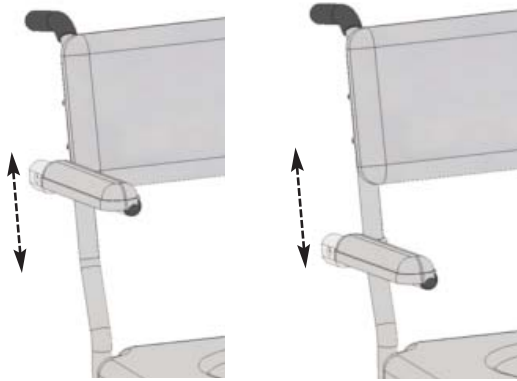
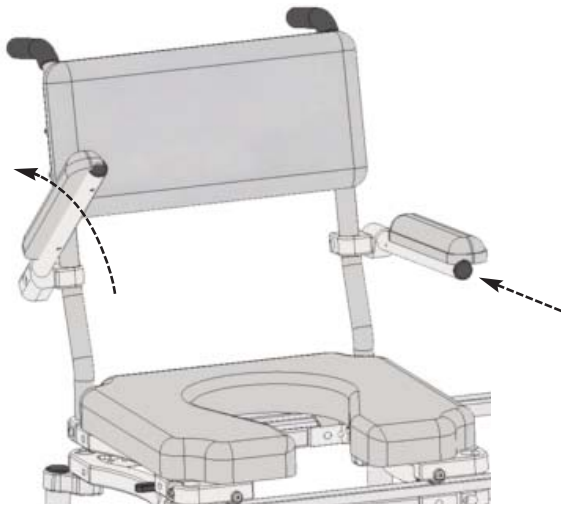

Figure 17
Figure 18
**D Cantilever Arms:** The cantilever arms can be adjusted to the desired height by completing the following steps: Loosen the socket head cap screws on the arm clamps, raise/lower the arms accordingly, then re-tighten the socket head cap screws (Refer to Figure 17). For safety purposes, the cantilever arms lock in the down position. To switch the arms to the up position, simply push the arms toward the back of the chair (releasing the locking mechanism) and lift up (Refer to Figure 18).